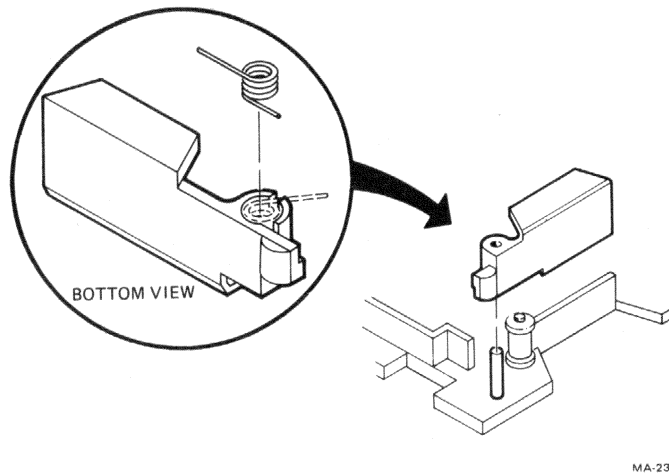

Figure D-3 Head Gate and Spring
**A spring is in the bottom of the gate. (Figure D-3).**
10. To reassemble the cartridge, reinstall the gate (if desired) by aligning the long and short ends of the spring with the long and short ends of the gate, as in Figure D-3.